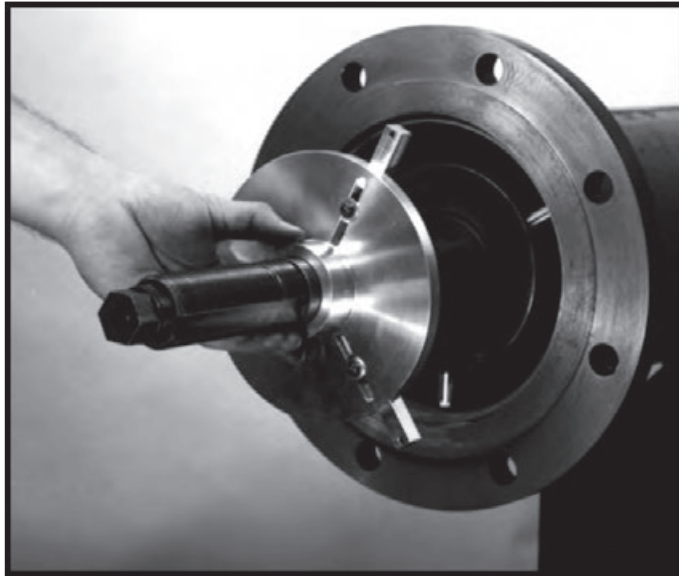

Figure 3-16.
8. Slide the flange alignment fixture over the mandrel shaft. (Figure 3-16).